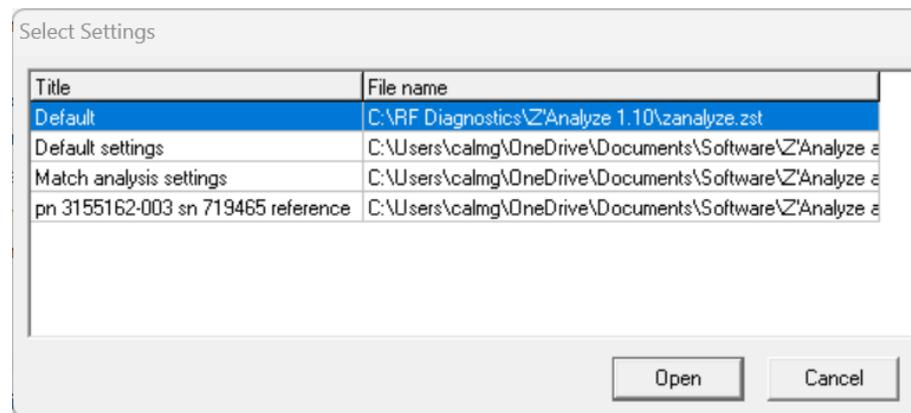

Figure 3
- Selecting **Default** will load the default settings file, "zanalyze.zst" while not displaying any of the files that have been saved to the selection list (See Figure 3 below for the 'Select Settings' prompt viewed at startup of Z'Analyze' when 'Settings list' has been selected from the General Tab).